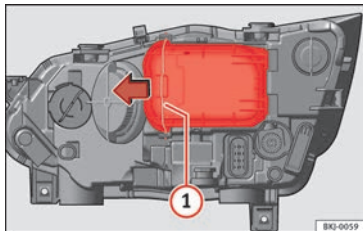

Fig. 110 In the engine compartment: remove the lid.
- Move the loop » **Fig. 110 ①** in the direction of the arrow and remove the cover.